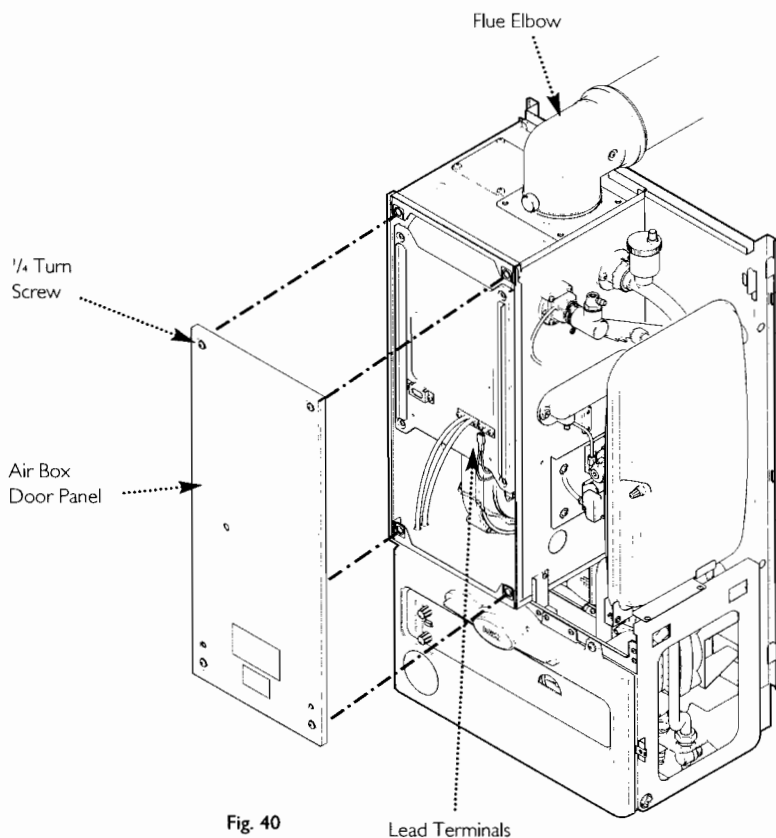

Fig. 40
6. Release the four 1/4 turn screws securing the air box door panel and remove the door (Fig. 40).
7. Disconnect the three lead terminals from the combustion box door taking note of their positions (Fig. 40).